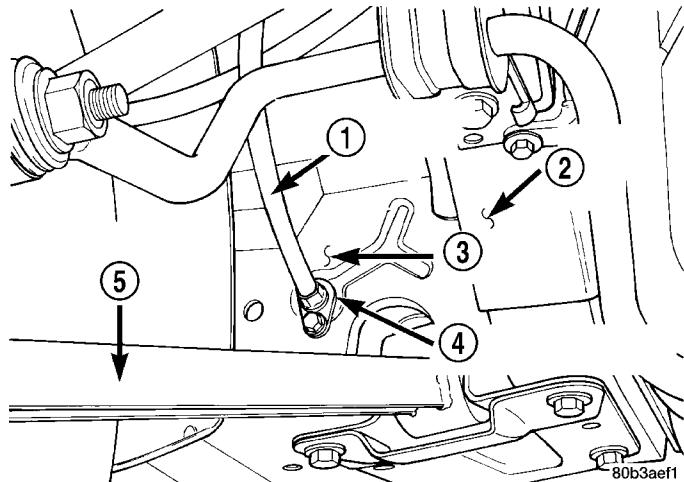

Fig. 99 Cable At Torque Box
(1) Raise the vehicle using a frame contact type hoist or correctly supported on jackstands. See Hoisting in Lubrication and Maintenance.
(2) Loosen the park brake cable tensioner adjuster nut until tension is removed from cables.
(3) Disconnect the cable connector between the front and intermediate cable.
(4) Remove the bolt attaching the intermediate cable retainer to the body torque box (Fig. 99).
(5) Remove the intermediate cable from the body torque box (Fig. 99).
(6) Remove the connector from the intermediate cable at the right rear park brake cable.
(2) Install the intermediate cable to the tensioner bracket by snapping it into place.
(3) Reinstall retainer clip on top of left side of crossmember, around intermediate cable and into place.
(4) Connect the intermediate cable to the right rear cable connector.
(5) Install the intermediate cable through the hole in the body torque box (Fig. 99). Install the bolt attaching the intermediate cable retainer to the body torque box.
(6) Connect the intermediate cable to the front cable connector.
(7) Adjust parking brake. (Refer to 5 - BRAKES - BASE/PARKING BRAKE - ADJUSTMENTS)
(8) Lower the vehicle.